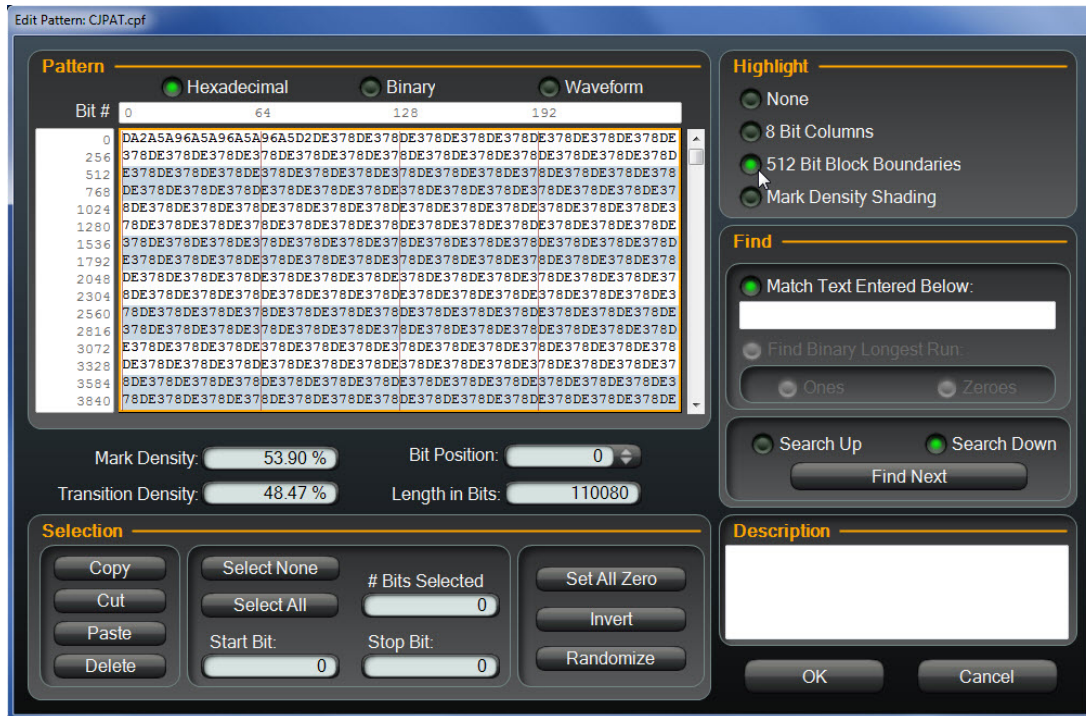

Figure 85. Highlight pattern in 512 blocks
- To highlight the pattern in blocks of 512 bits, select **512 Bit Block Boundaries** as shown in Figure 85.